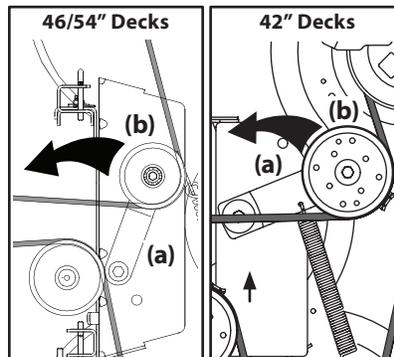

Figure 4-11
- Working from the middle of the tractor, pivot the idler bracket (a) and movable idler pulley (b) rearward away from the backside of the 'V' belt just far enough to lift the belt up and over the idler pulley (b). See Figure 4-11.